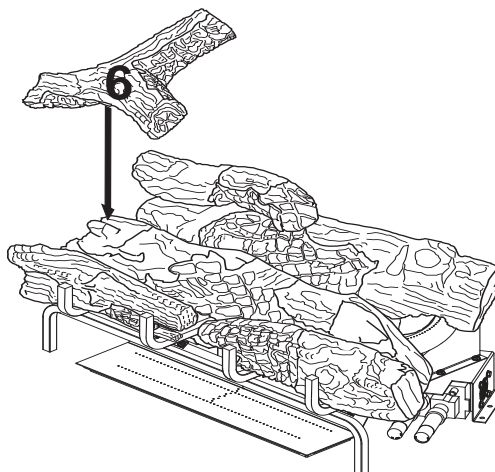

Figure 33 - Installing Log # 6
6. Place the left top front log (#6) on the top of the middle log and the left top back log. Match the rectangular projection on top of the middle log with the rectangular hole on the bottom of the left top front log. The left top front log will rest on the flat part of the left top back log. See **Figure 33**.